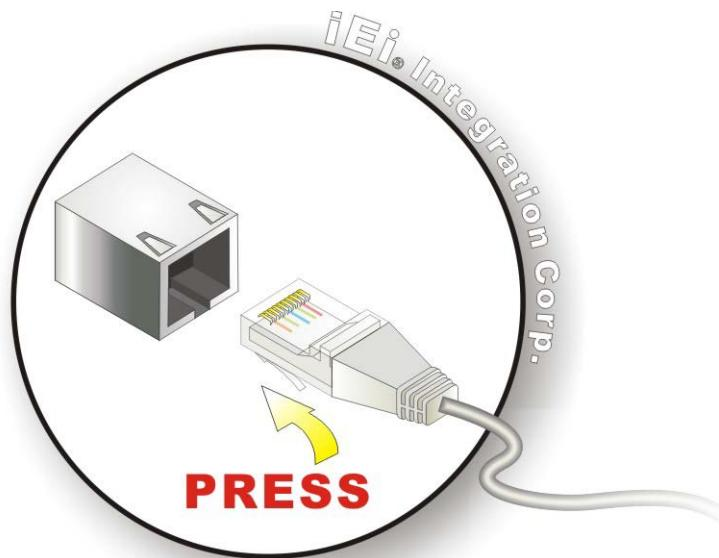

Figure 3-14: LAN Connection
Step 2: Align the connectors. Align the RJ-45 connector on the LAN cable with one of the RJ-45 connectors on the TANK-860-HM86 Series. See **Figure 3-14**.